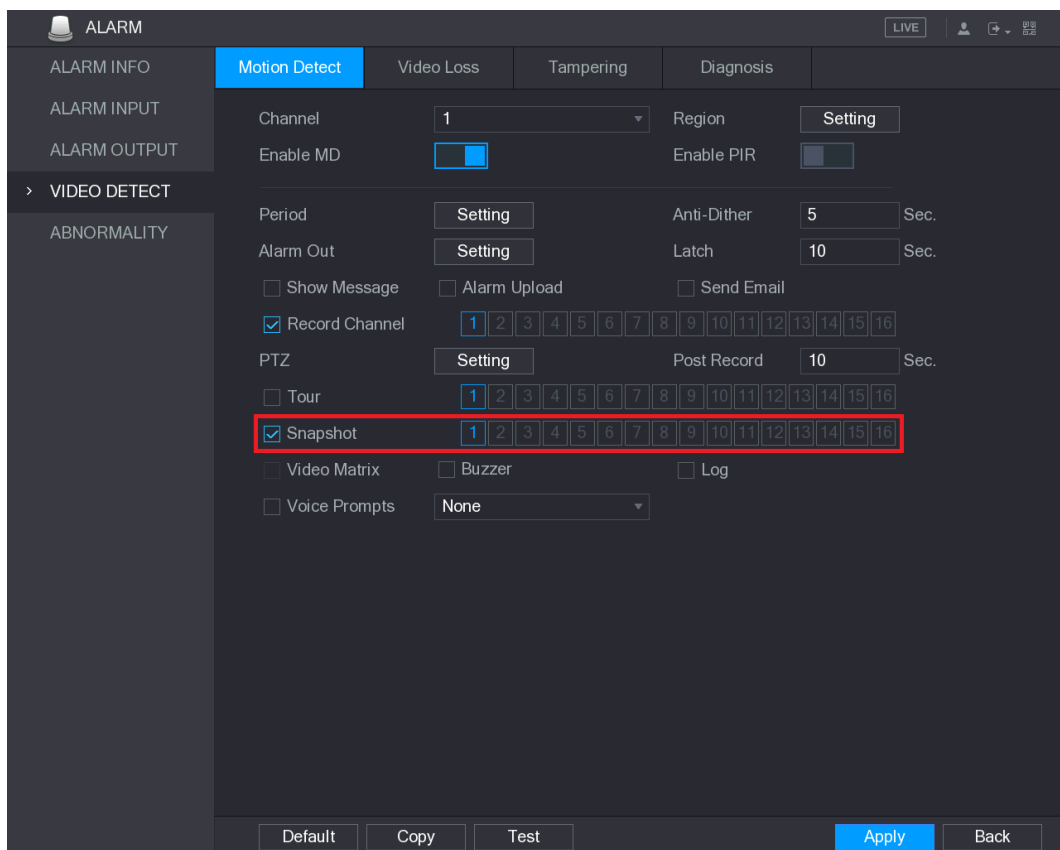

Figure 5-98
Step 3 Select **Main Menu > ALARM > VIDEO DETECT**, and select the event type to configure, for example, select the **Motion Detect** tab. See Figure 5-98.